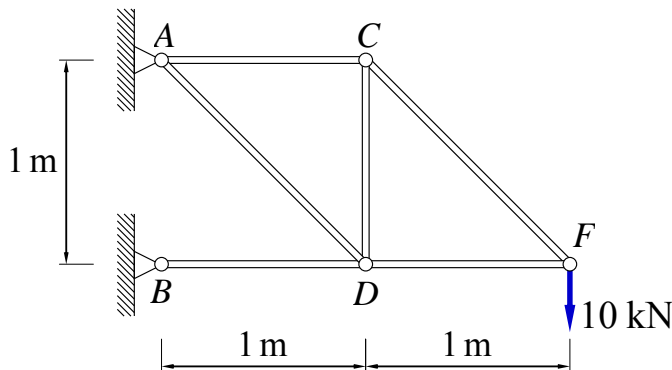

Figure Q1: A plane pin-jointed truss.
b) Figure Q1 shows a plane, pin-jointed truss which is supported at A and B and carries a vertical load of 10 kN at F as shown. All six members have a cross-sectional area of 300 mm^2 and are made of steel with $E = 200 \text{ GPa}$. Note that the structure is *statically determinate*.